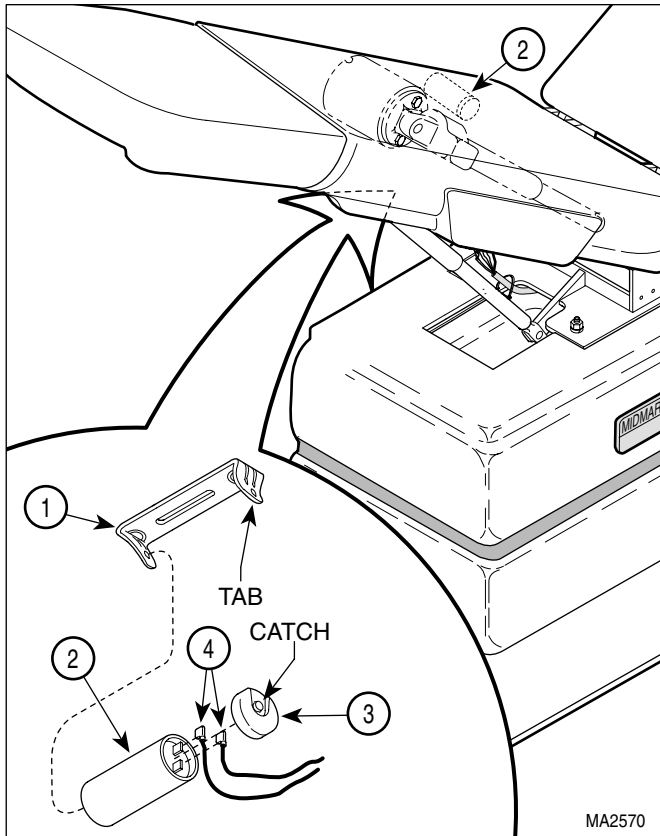

Figure 4-13. Back Capacitor
- (2) Unplug power cord from wall outlet.
- (3) Using a screwdriver, pry tab of mounting bracket (1, Figure 4-13) outward and separate back capacitor (2) from mounting bracket.
- (4) Remove capacitor cap (3) from back capacitor (2).